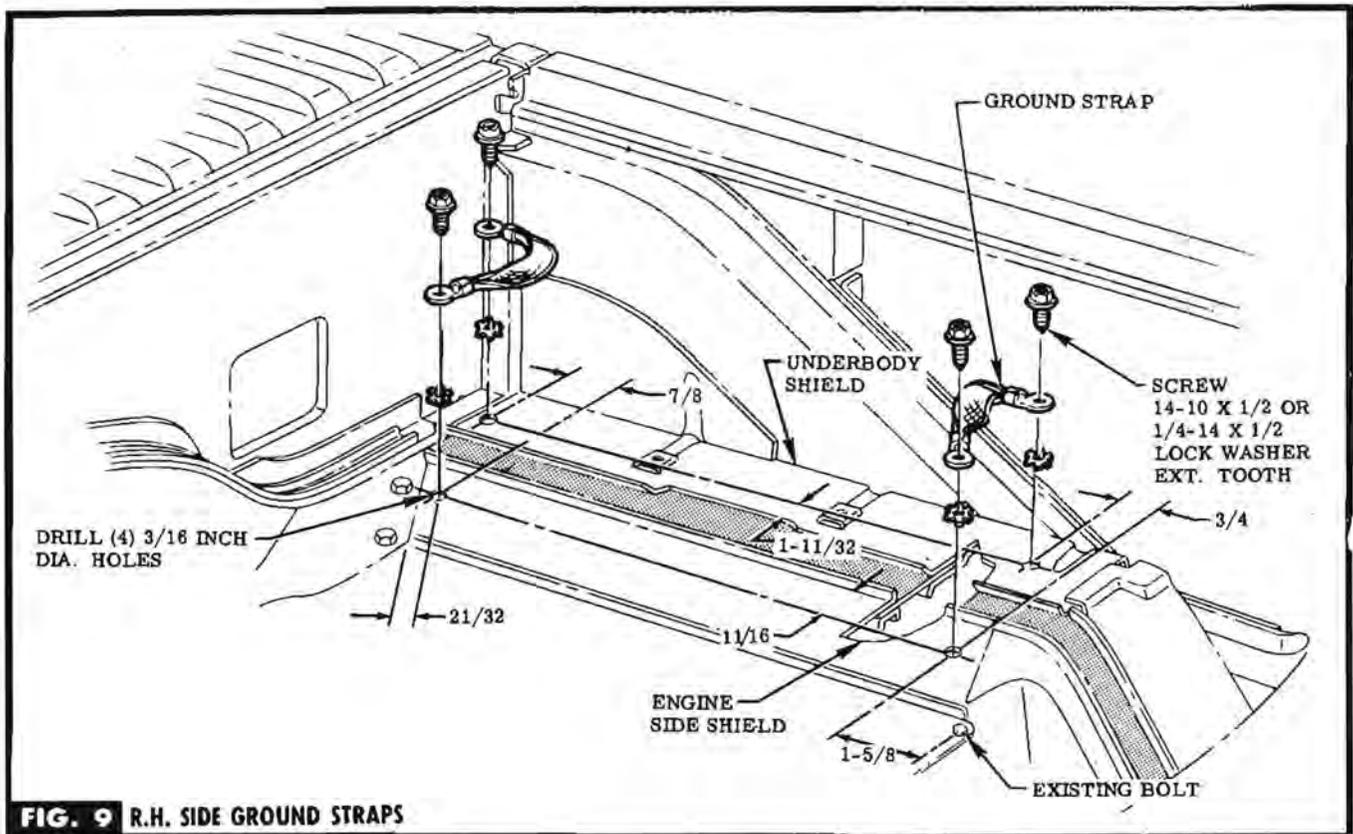

FIG. 9 R.H. SIDE GROUND STRAPS
STEP 16 LOCATE, CENTER PUNCH, & DRILL HOLES IN ENGINE SIDE SHIELDS & ENGINE COMPARTMENT UNDERBODY SHIELDS. SEE FIG. 9 .
STEP 17 ATTACH GROUND STRAPS TO SHIELDS WITH PROVIDED WASHERS & SCREWS. SEE FIG. 9 . **CAUTION** All lock washers must be placed first, directly against shields,